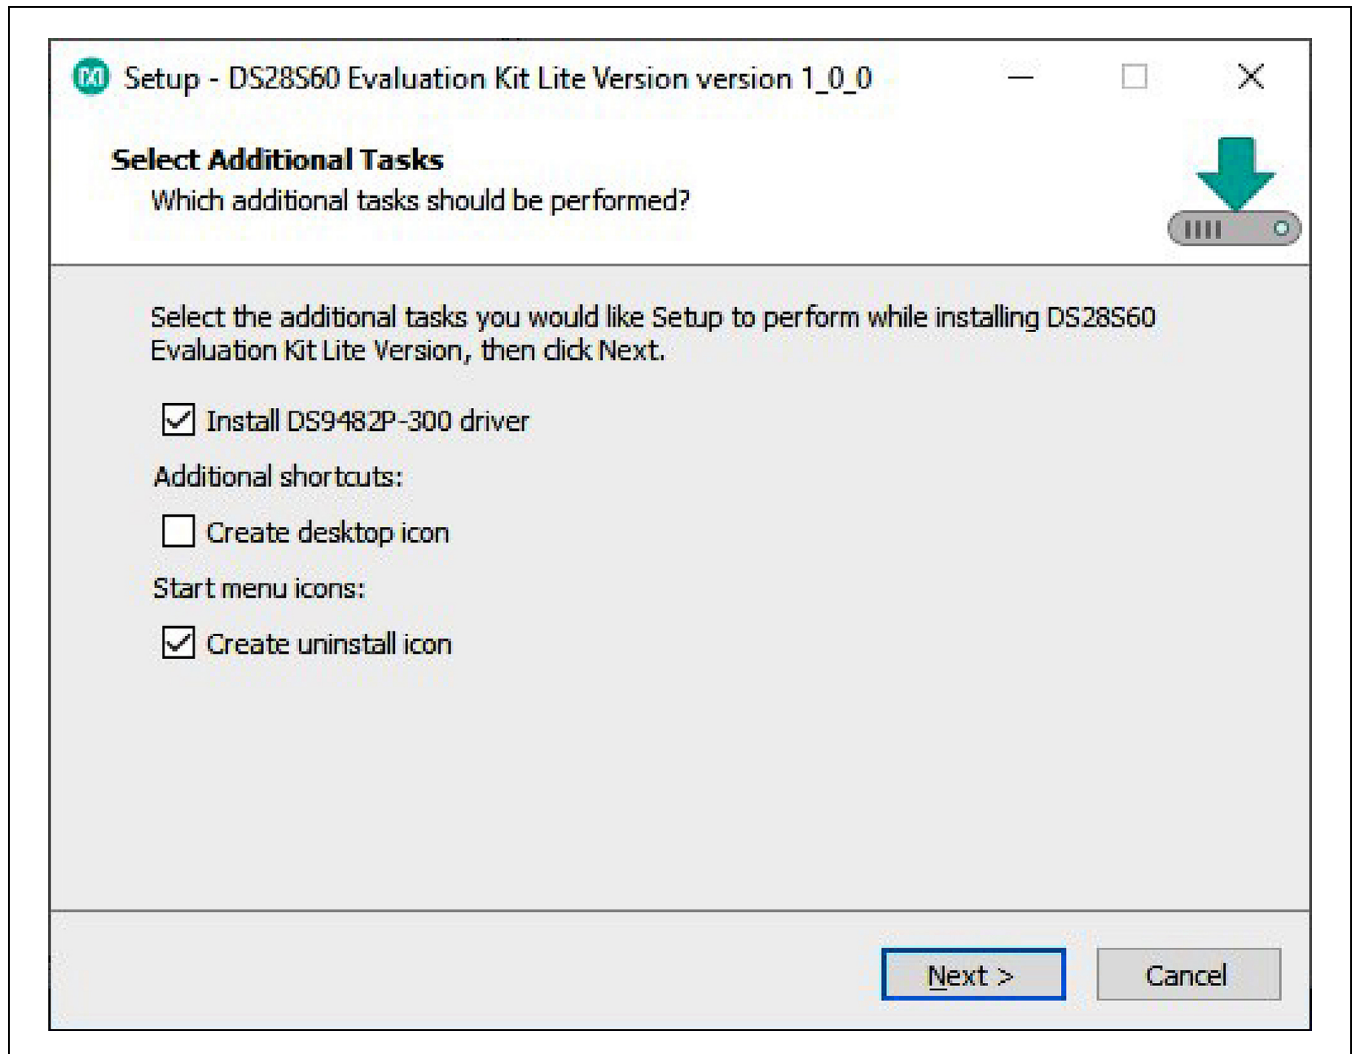

Figure 2. DS28S60 Setup Wizard
- 3) The setup wizard opens; click **Next** as shown in Figure 2.